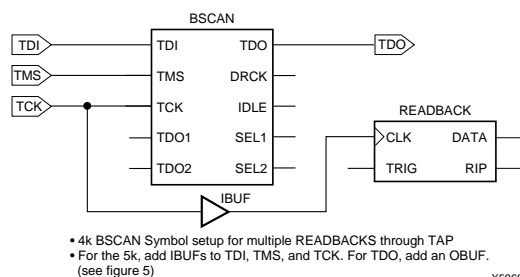

Figure 8: Symbol Setup for Multiple Readbacks
3. Next, connect the net between the TCK pad and TCK pin on the BSCAN symbol to an IBUF. Take the output of the IBUF and connect it to the CLK pin of the READBACK symbol. See Figure 8.